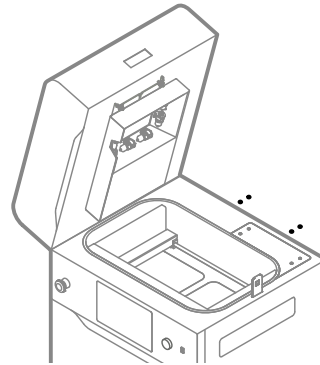

Fig. 13.71 Tighten back four screws of the access panel.
15. Using a 2 [mm] allen key, tighten back the four screws securing the access panel on the top of the printer (fig. 13.71).